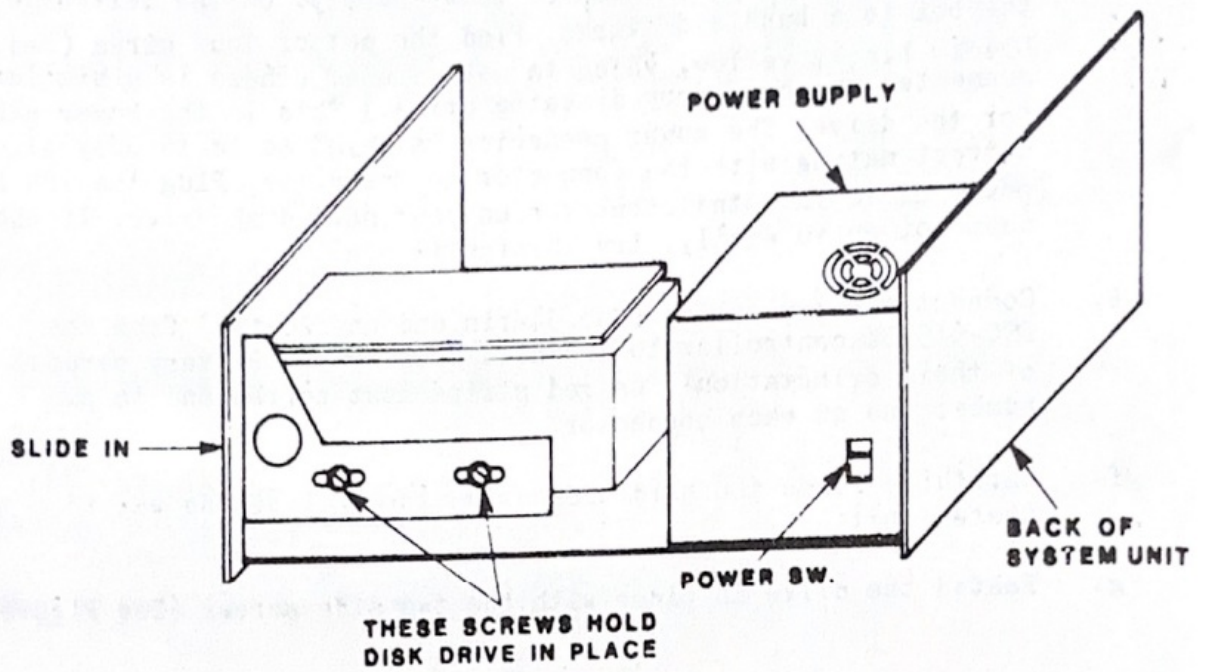

Figure 4. Fastening Internally-Mounted Drive in Place
- a. Remove the two side mounting screws from the right-hand floppy diskette drive (See Figure 4)
g. Fasten the drive in place with the two side screws (See Figure 4)•